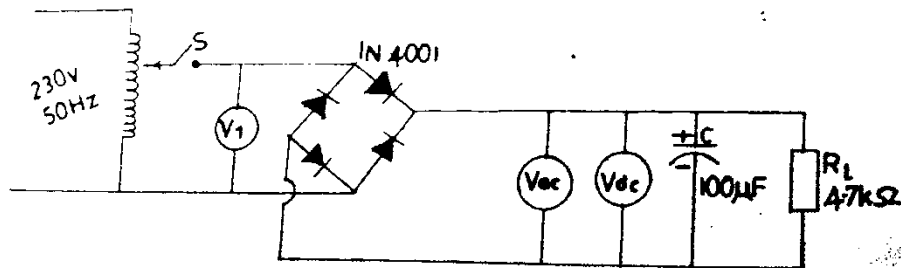

Figure 1.
- (a) Connect the circuit as shown in Figure 1.